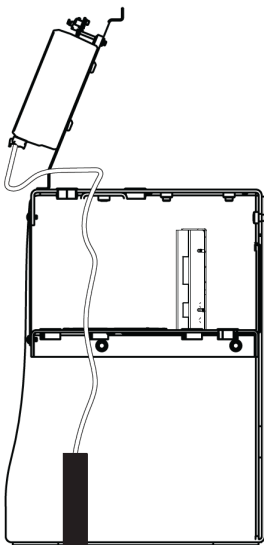

Figure 56. Route Relay Wires
2. Route the relay wires to the SmartTouch 725 Controller (Figure 56).